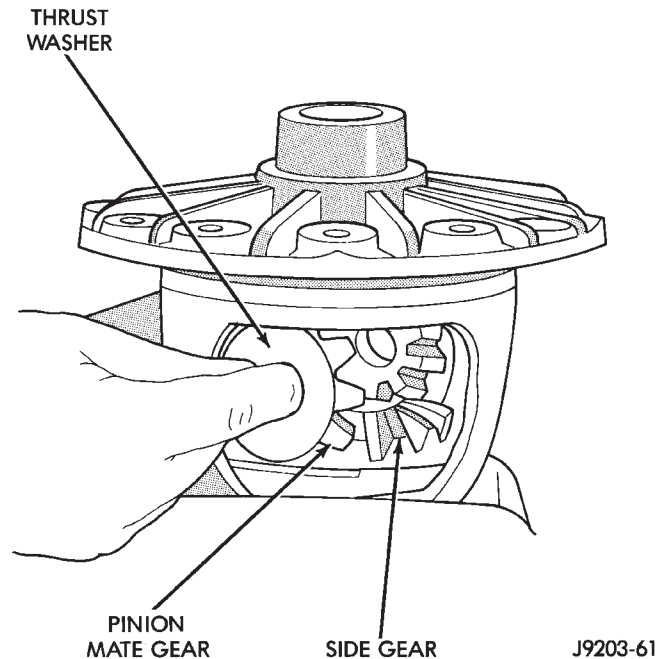

Fig. 38 Pinion Mate Gear Removal
- (4) Rotate the differential side gears and remove the pinion mate gears and thrust washers (Fig. 38).